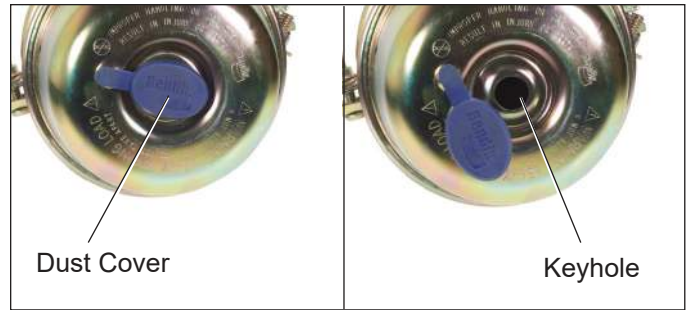

Figure 44 – Dust Cover Removal (Actual Dust Cover Design May Vary)
5.4.4 Remove the dust cap or weather seal from the keyhole in the center of the piggyback spring brake chamber (See *Figure 44*).